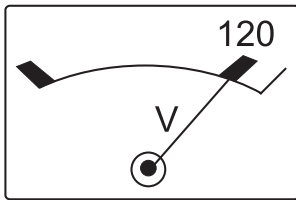

Figure 14. AC Voltmeter (120 VAC)
- Refer to the AC voltmeter (Figure 14) on the control panel. The voltage indicated on the voltmeter should be 120 VAC with no load applied.